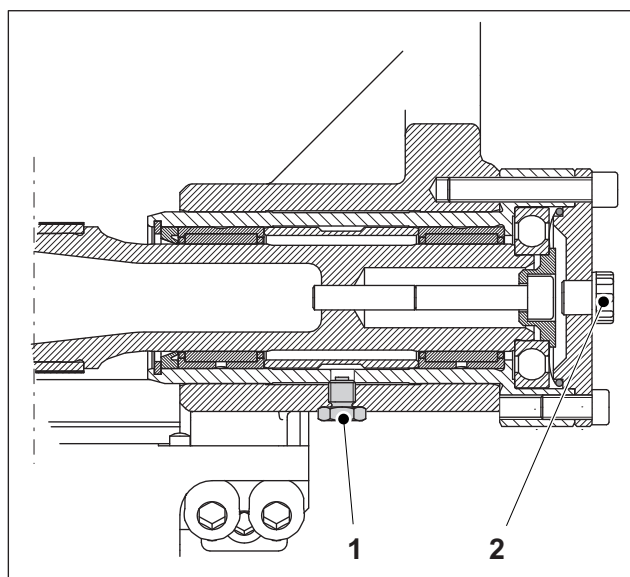

Fig. 30 Lubricating point O.S.
1. Remove the screw plug (Fig. 30/2).
2. Lubricate the bearing of the tape driving roller O.S. via the recessed grease nipple O.S. (Fig. 30/1) until grease emerges from the threaded hole of the screw plug (Fig. 30/2).
3. Remove the residual grease from the threaded hole (Fig. 30/2).
4. Screw in the screw plug (Fig. 30/2) again and tighten.